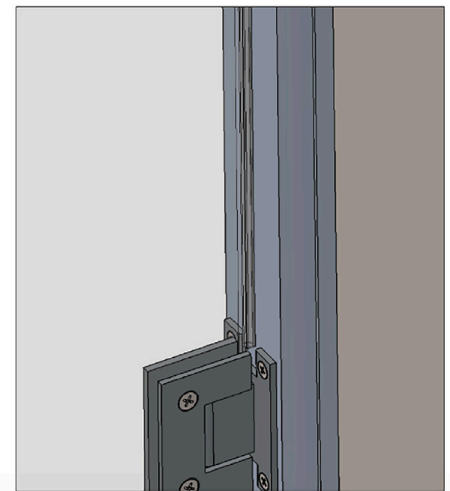

FIGURE 17B
ZV SDTB Bulb Seal (N) - This is to be placed on hinge edges of glass. You will need to cut into 3 pieces that will fit the small areas from top hinge to top of door; bottom hinge to bottom of door and the large area between hinges. Remove red covering to expose adhesive and apply to edge of glass. (See Figure 17B)